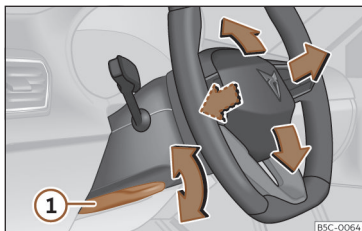

Fig. 91 Lever in the lower left side of the steering column.
- Pull lever >>> **Fig. 91** ① down, move the steering wheel to the desired position and lift the lever back up until it locks.
- After adjusting the steering column, push lever >>> **Fig. 91** ① firmly upwards so that the steering wheel does not accidentally change position while driving.